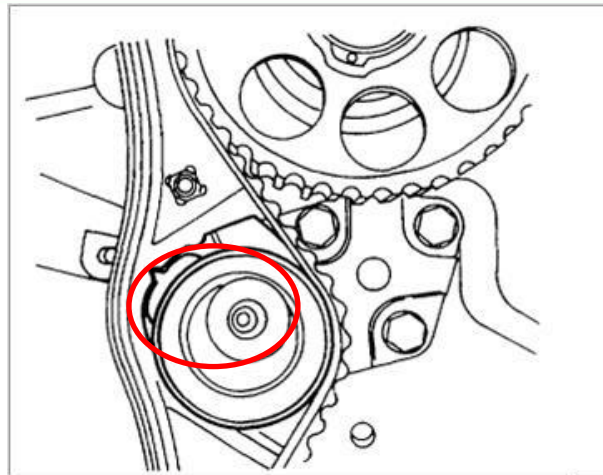

Fig. 9
6. Bring tensioner pointer in line with the pointer on the tensioner back-plate by rotating the water pump anticlockwise, with special adjustment tool (Fig. 9).